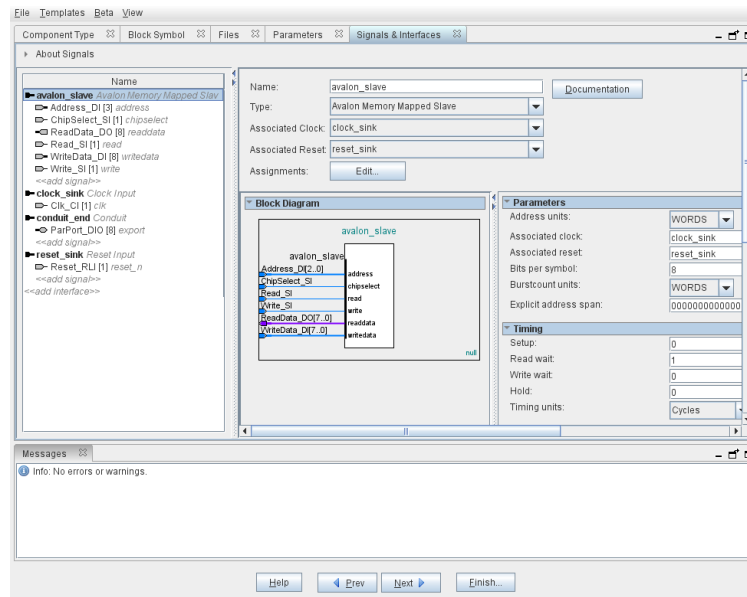

Figure 1: User IP, port interface (Avalon and FPGA IO)
- ▶ In the "Signals & Interfaces" tab, you'll find at the left a list of interfaces (in bold), each composed of different signals. These interfaces and signals have been automatically inferred from their name, but usually they are wrong! It is only you that knows their correct functionality. Add (or remove) interfaces in order to end up with an Avalon Slave, a Clock input, a Reset input and a Conduit\_end (external signal). See in figure 1 for more specific information.
- ▶ At the end you should end up with a view similar to the one shown in figure 1.